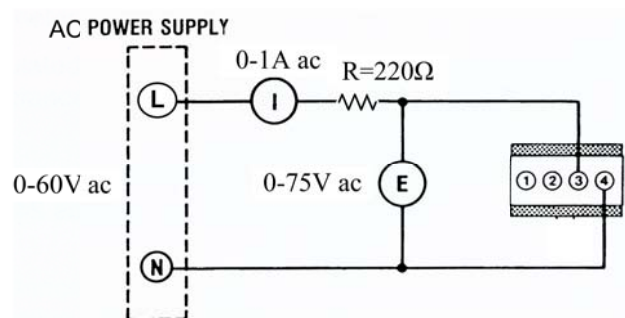

Fig 5 Circuit to determine Z , X_L and L of a coil with air core
2. Now connect the circuit to AC supply as shown in Fig. 5 with the 220 resistor connected in series with coil A. Turn on the power and adjust the current I to 0.20 A rms. Measure the voltage E across the coil and current I .